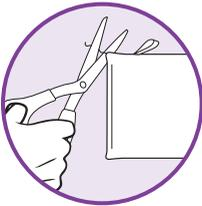

fig. 28
- 2 If there are loose threads on the micro-fiber cleaning pad carefully cut the thread with scissors. Do not pull on them or cut at the base. (fig. 28)